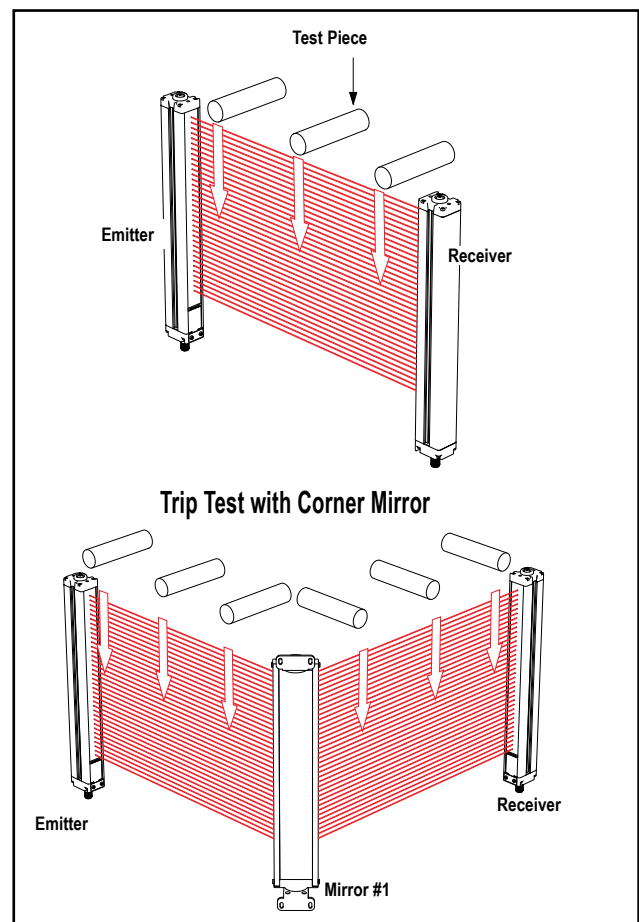

Figure 3-15. EZ-SCREEN trip test
3. Pass the specified test piece through the defined area in three paths: near the emitter, near the receiver, and midway between the emitter and receiver (Figure 3-15).
**If mirrors are used in the application:** Test the defined area on each leg of the sensing path (e.g. emitter to mirror, between mirror and receiver, see Figure 3-15).